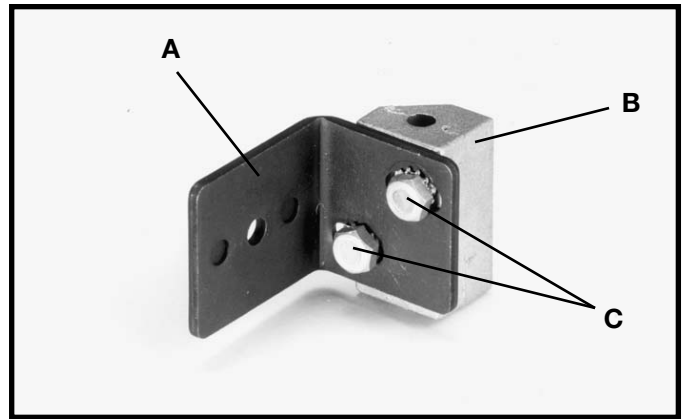

Fig. 9
4. Fasten the splitter support bracket (A) Fig. 9, to splitter bracket (B) using two 1/4-20 x 1/2" Hex Head Screws (C) which were removed from splitter bracket (B) earlier, and two 1/4" external tooth lockwashers as shown. **NOTE: Do not completely tighten screws (C) at this time.**